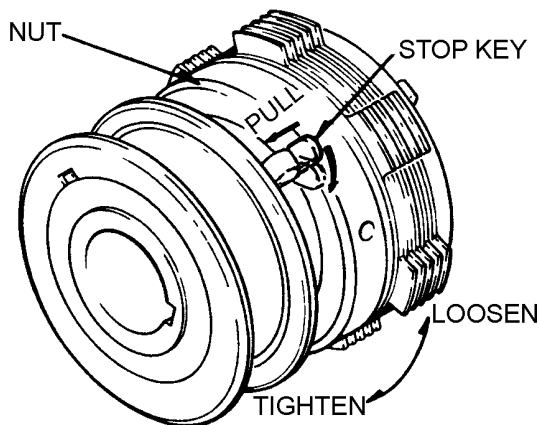

Figure 33. Clutch Adjustment
2. Pull out the stop key and turn to the release position (Figure 33).